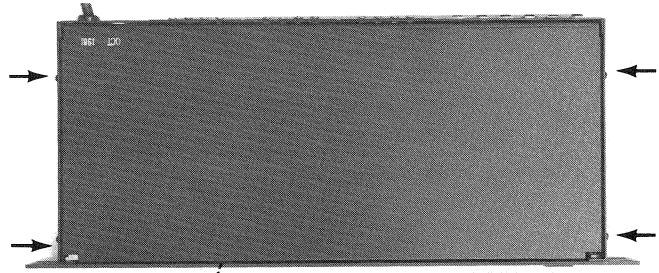

Figure 3 – Remove These Screws to Lift Off the Bottom Cover
1. Place the 5234A upside down on a soft surface, remove the two Phillips-head screws from either side of the case, and lift the bottom cover from the chassis (Figure 3).
- a) Remove the bottom cover by removing the two small Phillips head screws on each side of the case, (Figure 3) and change the line cord to one whose attachment plug matches the power receptacle. Secure the new cord to the chassis with a feed through cable clamp. Also,